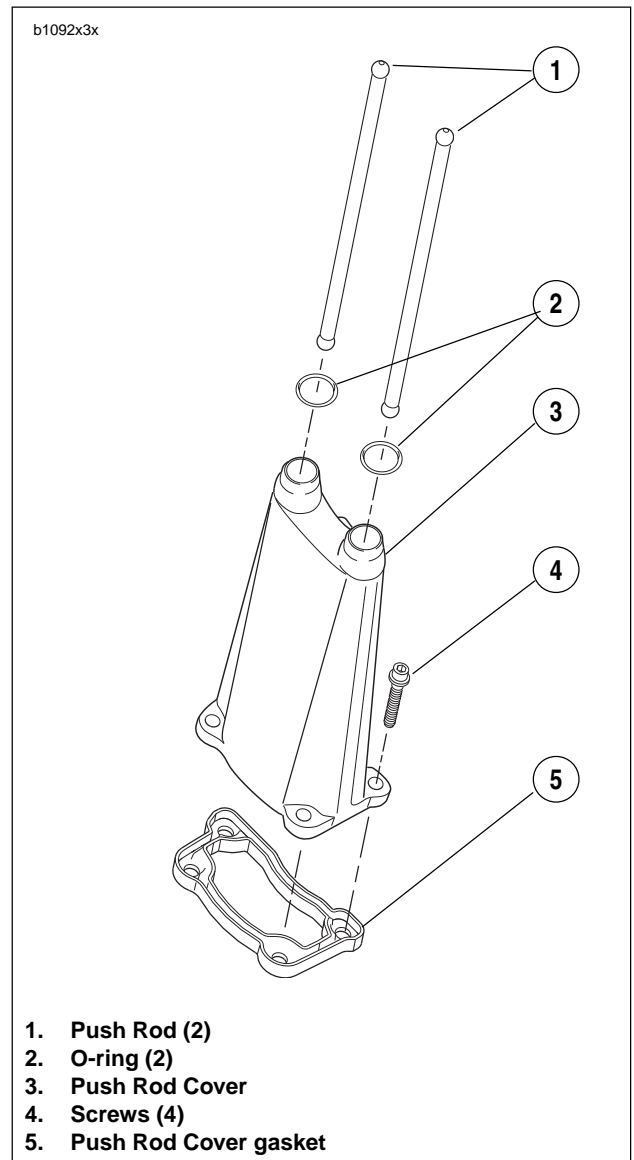

Figure 3-86. Push Rods and Push Rod Cover Assembly
1. See Figure 3-86. Install push rod covers.
- a. Install **new** o-rings (2) on top of each pushrod cover (3).
- b. Install **new** push rod cover gasket (5) onto bottom of each push rod cover.
- c. Install each push rod cover assembly and start the fasteners (4) securing the bottom of each cover to the crankcase.